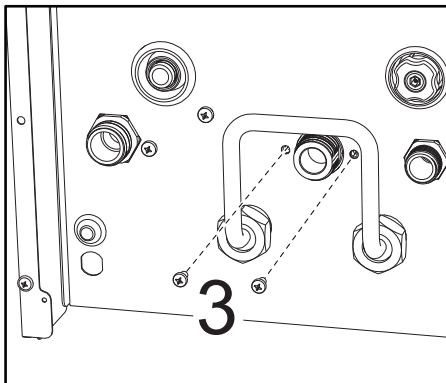

fig. 58
- Undo the screws “3” (fig. 58)